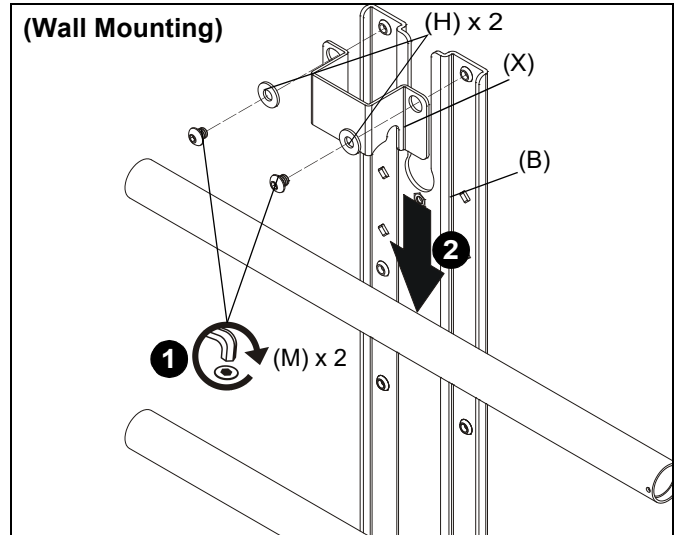
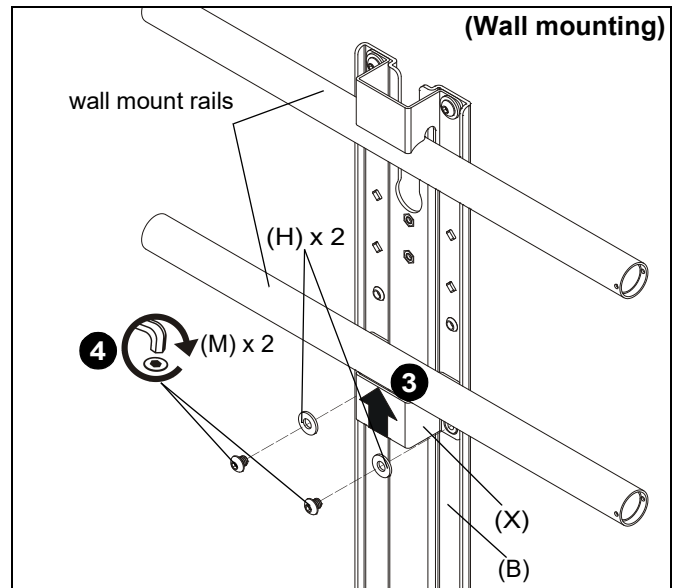

Figure 3
Figure 4
IMPORTANT ! : Refer to Figure 3 if installing to a wall mount or Figure 4 if installing to a cart/ceiling mount.
1. Use two 1/4-20 x 1/4" button head cap screws (M) and two large washers (H) to secure shelf bracket (X) to main bracket (B). (See Figure 3)
2. Slide main bracket (B) behind wall mount rails until shelf bracket (X) rests on top of wall mount rail. (See Figure 3)
3. Slide second shelf bracket (X) underneath lower rail on wall mount, lining up holes on shelf bracket (X) to main bracket (B). (See Figure 4)
4. Use two 1/4-20 x 1/4" button head cap screws (M) and two large washers (H) to secure shelf bracket (X) to main bracket (B). (See Figure 4)